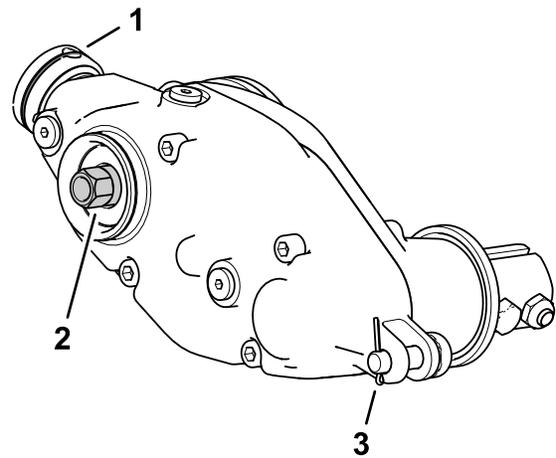

Figure 14
- Using a block of wood or having another person restrain the reel, torque the hex-head drive of the drive-box shaft to 135 to 150 N·m (100 to 110 ft·lb); refer to Figure 14.